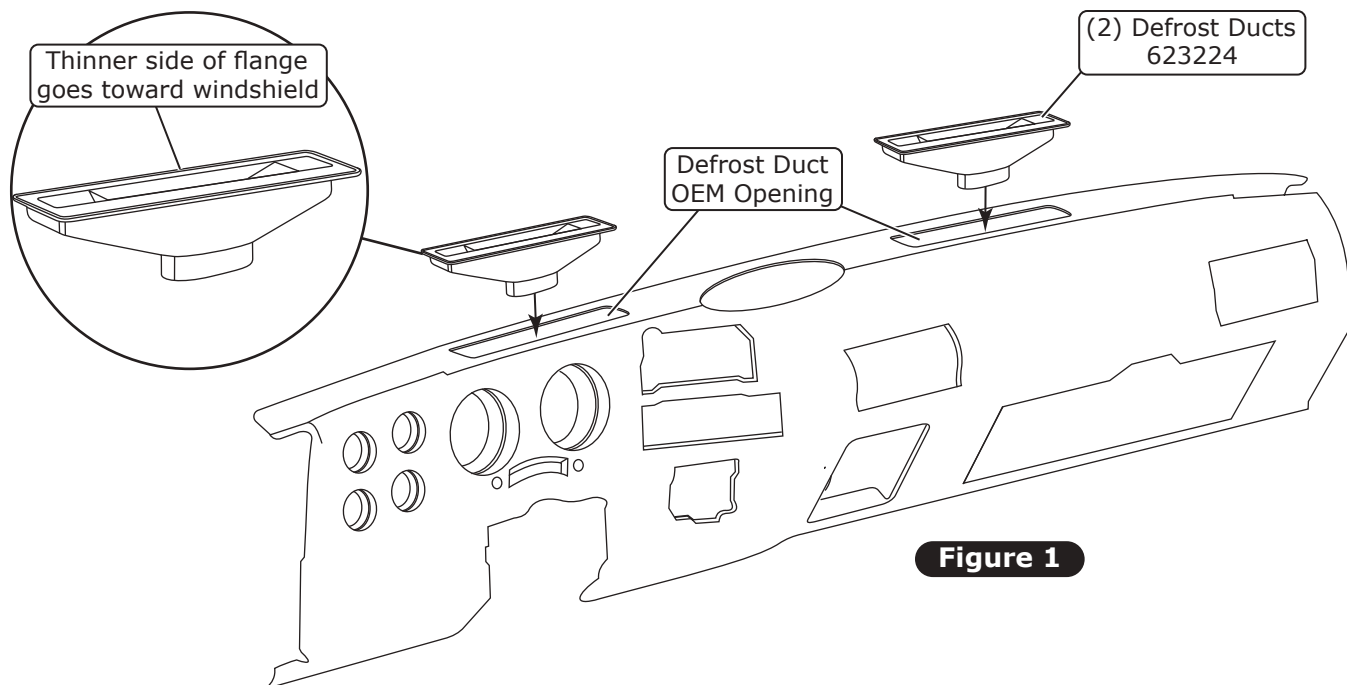

Figure 1
1. Apply a 1/4" bead of silicone around the mating surface of the fresh air cap as shown in Figure 1, below.